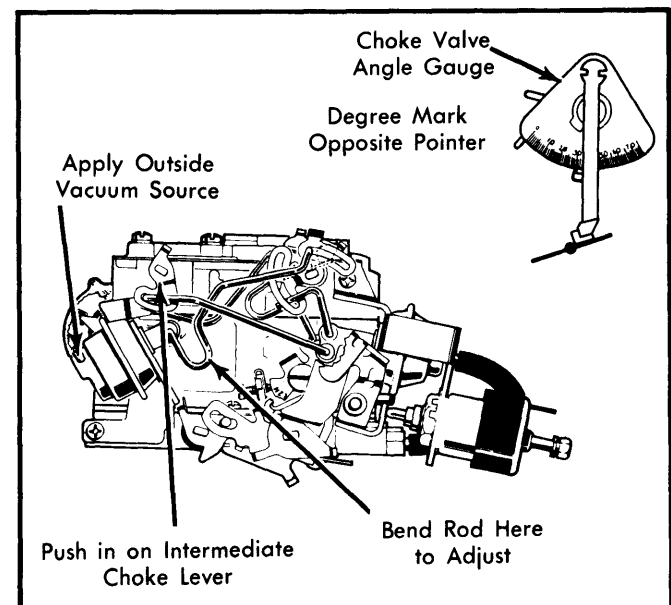

Fig. 8 Secondary Vacuum Break Adjustment
1) Using an outside vacuum source of at least 15 in. Hg., seat secondary choke vacuum break diaphragm. See Fig. 8.